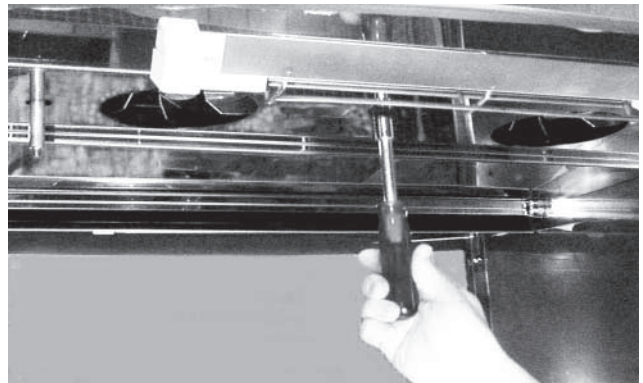

Fig. 55
10. Swing element cover up until all 3 studs protrude through cover. Reinstall element cover: Tighten center nut using a $7/16$ " nutdriver (Fig. 55).